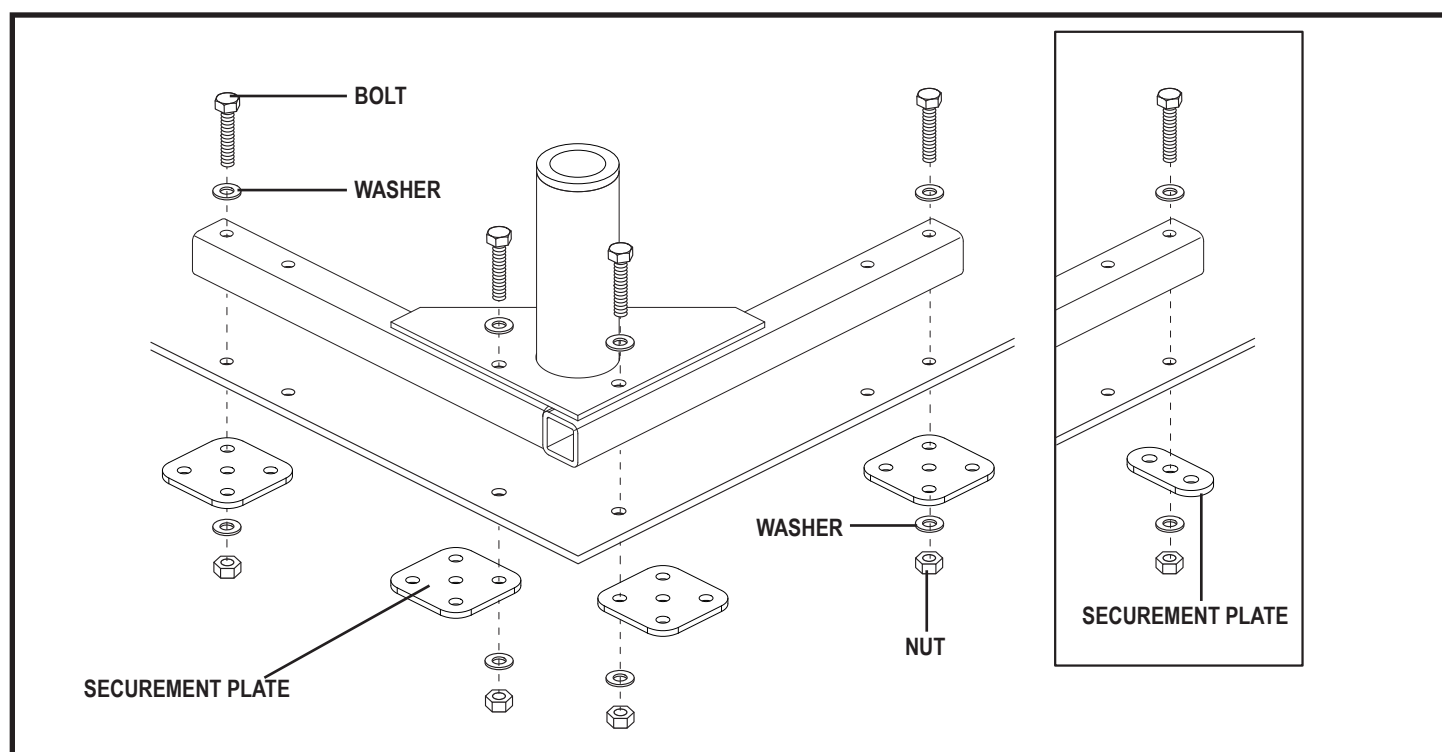

Figure 8. Securing the L-Base
2. If all is clear under the L-base, mark the position of the mounting holes and drill them using a 3/8-in drill bit. Drill all mounting holes from inside the vehicle. **See figure 8.**
5. From under the vehicle, install the securement plates, mounting washers, and nuts to all mounting bolts and tighten. **See figure 8.**